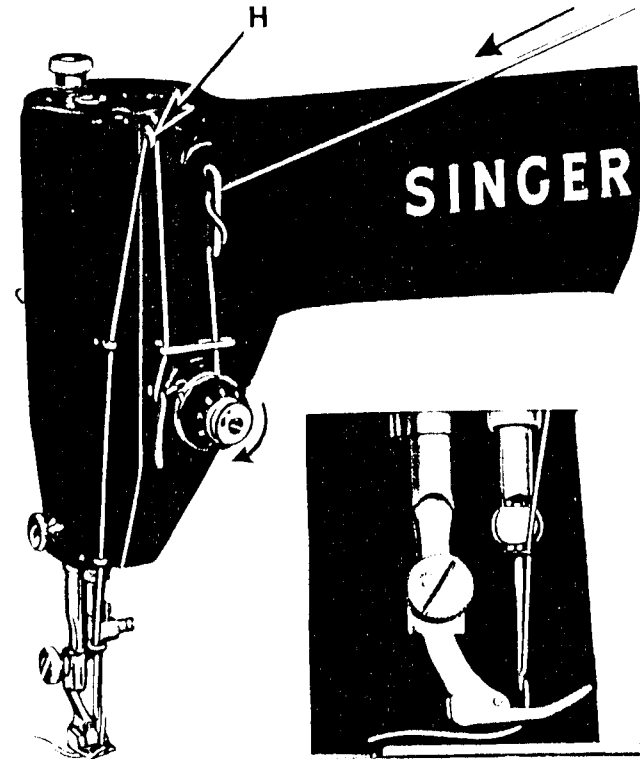

Fig. 10. Upper Threading Fig. 11. Threading Needle
- Pass needle thread from spool through threading points in order shown in Figs. 10 and 11.
- Turn machine pulley over toward you until needle thread take-up lever H, Fig. 10, is at its highest point.